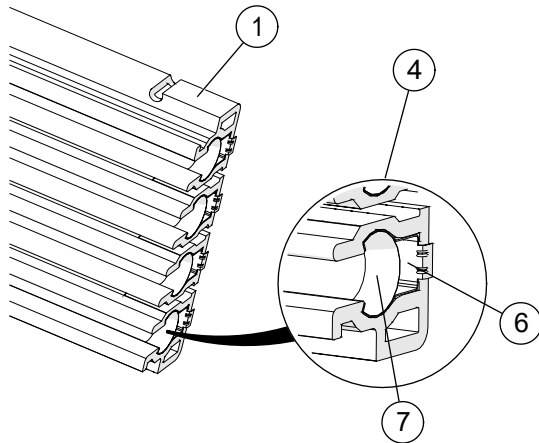

Fig. 14: Detailed view socket side
- Connecting clamp in the reception area for the connecting pin (socket side) is available and in a correct position (see Fig. 14, item 6).